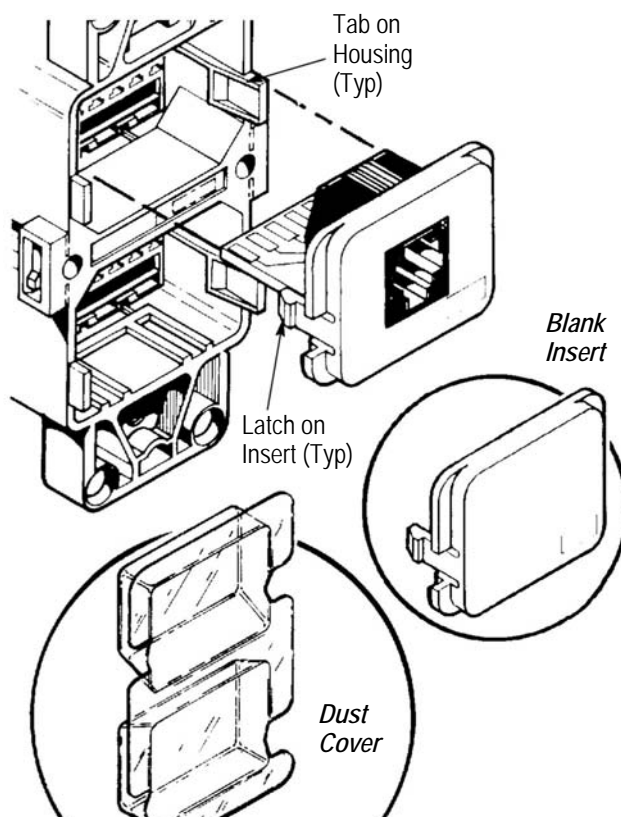

Figure 14
7. INSTALLATION OF INSERTS (Figure 14)